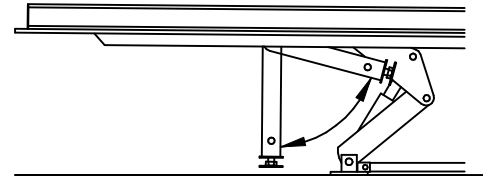

Figure 1
Step 2: Press the foot pump lever to "PUMP" to raise the machine so the safety legs are off the ground. Disengage the locking pin on the safety legs and swing the legs back (See figure 1). Secure the safety legs in this position by hooking the safety leg chain on the side of the machine bed.